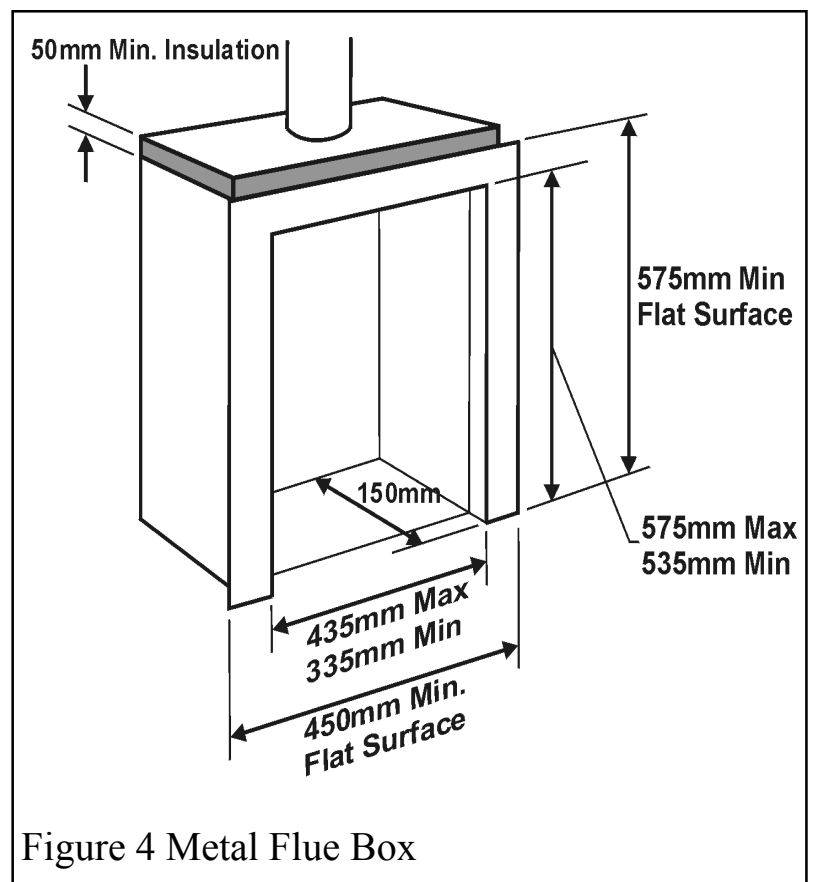

Figure 4 Metal Flue Box
**4.9.3** A metal flue box conforming to BS715 with a minimum internal depth of 150mm. Incombustible mineral wool insulation of not less than 50mm thickness must be applied to the top surface of the firebox and it must stand on a non-combustible hearth. (See figure 4).